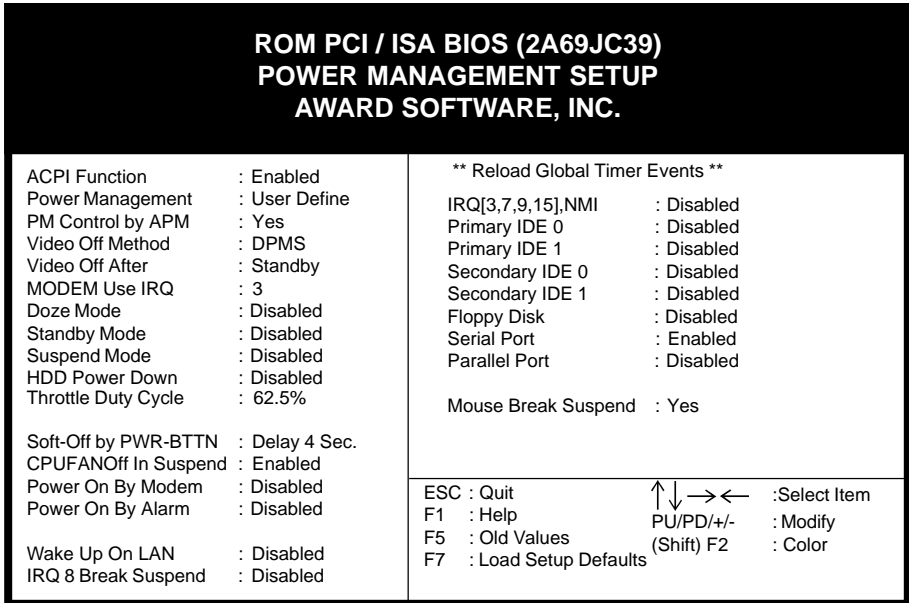

Figure 3-5 Power Management Setup Screen
-  Note that enabling the Power Management function will result in enabling the HDD Power Down function (Max Saving = 15 min, Min Saving = 1 min). The HDD Power Down function is not part of the Power Management scheme as indicated in Figure 3-5. Refer to the Standby Mode, Suspend Mode, and HDD Power Down descriptions below for more information on hard drive power management.
The Power Management function must not be set to disabled to enable this function. If the system runs in Doze mode and the Standby timer expires, the system will enter Standby mode. In Standby mode, the hard disk drive and the monitor shut off while all other devices still operate at full speed. Note that the Video Off and HDD Power Down functions in Figure 3-5 provide the same power saving options found in Standby mode. The priority for determining which function controls power saving for the monitor and hard drive is determined by which timer expires first.